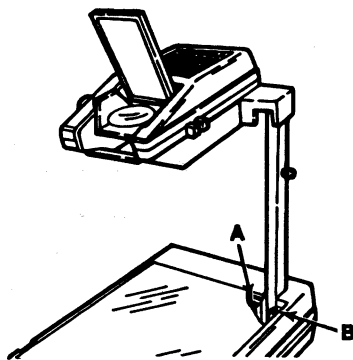

Figure 1
3. Replace Stage (with lens in down position to prevent damage) and use a square to adjust Post Assembly back or forth until it is perpendicular to the Stage (See figure 1).